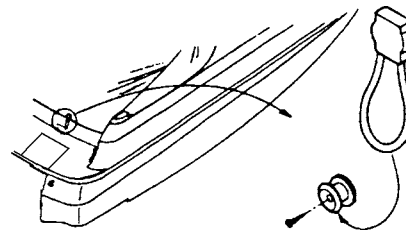

Figure O2: Shock Cords
- If the canvas has shock cords along the aft edge, attach to knobs as shown in Figure O2.
- b. If the canvas has shock cords along the aft edge, attach to knobs as shown in Figure O2.